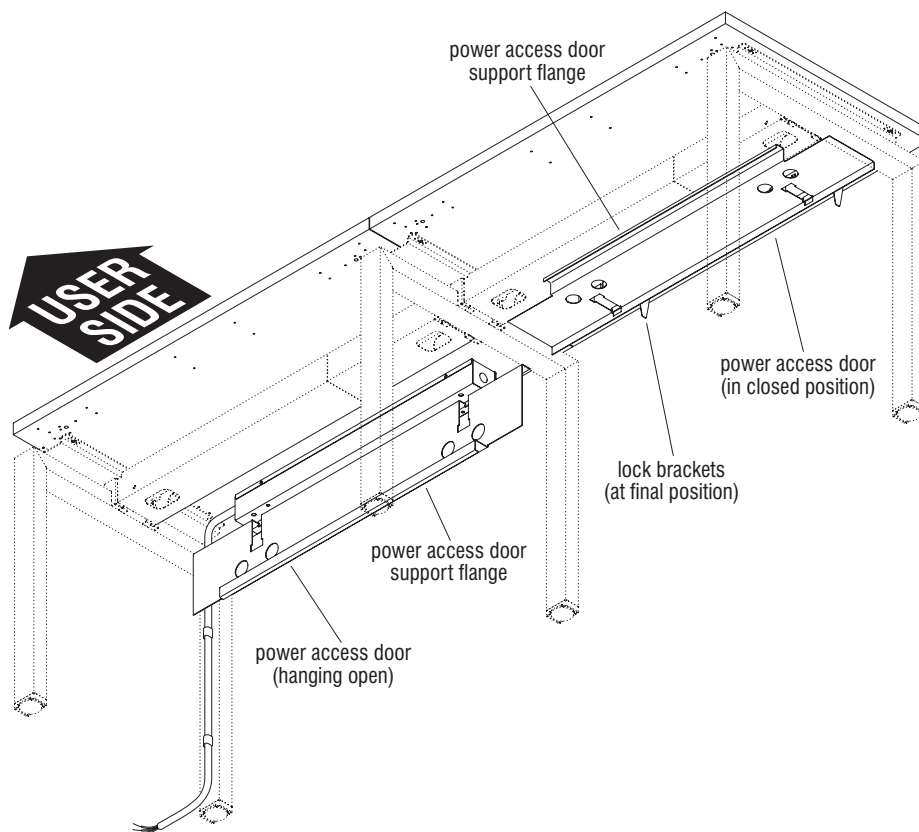

Figure 4 - Single-Sided Fixed Benching with Hardwired Electrical - Access Door Installation
12. The user-side of the power access door has a support flange which hooks onto the top of the short-wall side of the beam assembly to hold the door in the closed position (Figure 4).